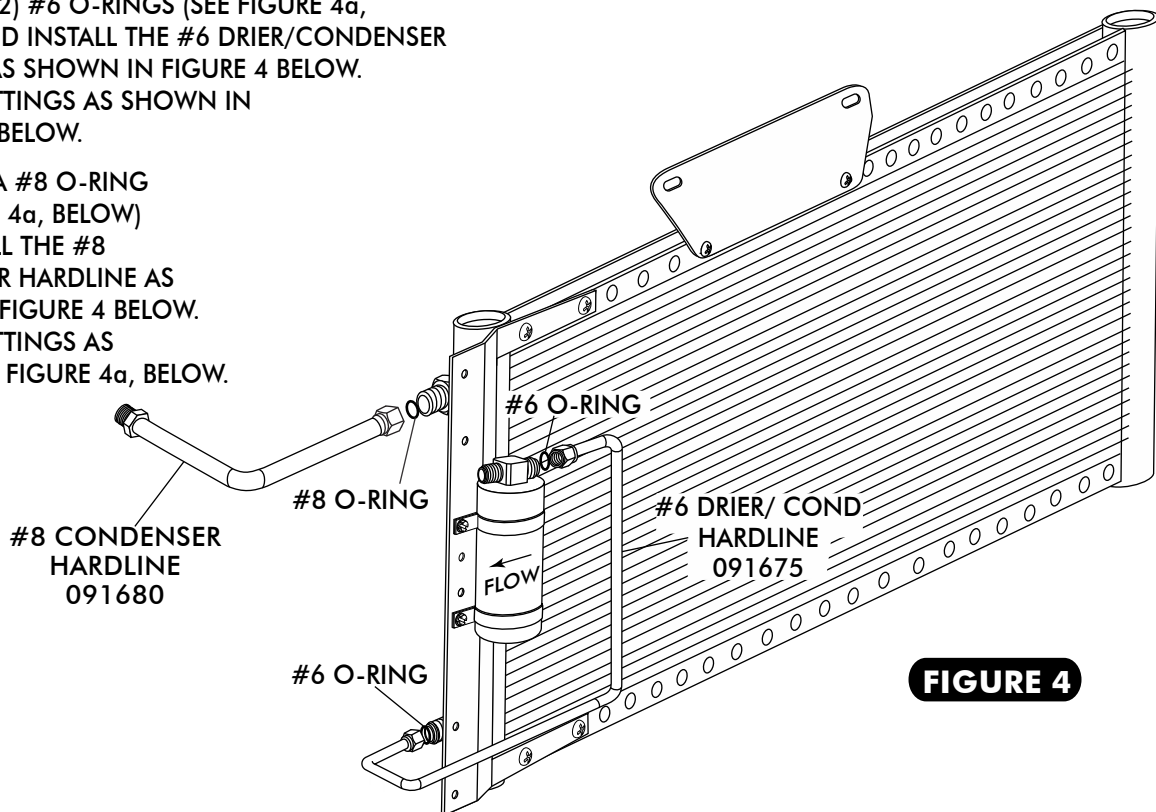
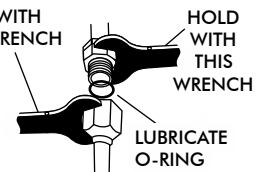

FIGURE 4
FIGURE 4a
- ☐ LUBRICATE (2) #6 O-RINGS (SEE FIGURE 4a, BELOW) AND INSTALL THE #6 DRIER/CONDENSER HARDLINE AS SHOWN IN FIGURE 4 BELOW. TIGHTEN FITTINGS AS SHOWN IN FIGURE 4a, BELOW.
- ☐ LUBRICATE A #8 O-RING (SEE FIGURE 4a, BELOW) AND INSTALL THE #8 CONDENSER HARDLINE AS SHOWN IN FIGURE 4 BELOW. TIGHTEN FITTINGS AS SHOWN IN FIGURE 4a, BELOW.
- LUBRICATE A #6 O-RING (SEE FIGURE 4a, PAGE 6) AND INSTALL THE #6 DRIER/CORE HARDLINE AS SHOWN IN FIGURE 11 BELOW. TIGHTEN FITTINGS AS SHOWN IN FIGURE 4a, PAGE 6.